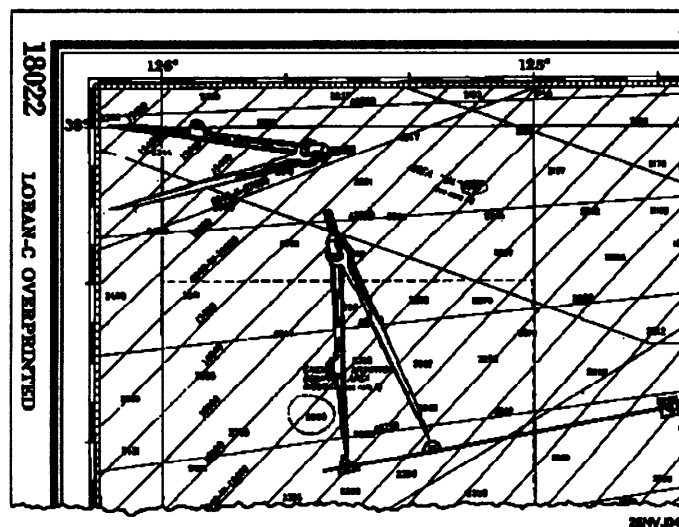

Figure 1-12. How to measure distance on a chart.
Use the table and figure 1-12 to learn how to measure distance on a nautical chart.
6.	Determine the distance between the two points. (In figure 1-12, the measurement indicates 10 nmi.)